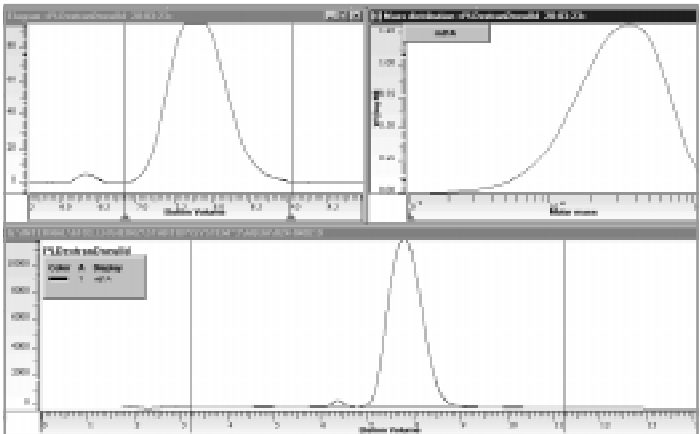

Figure 9:
In the raw data-(R) part define next the baseline by moving the red triangles to the correct positions. Ideally the baseline should be taken as a straight line between the elution prior to the size exclusion limit, about 5 mL, and that after the last impurity peak, i.e. areas in which no elution can take place in an ideal GPC-SEC separation^(1,3), refer to figure 9. For setting the baseline correctly make sure by zooming that there is